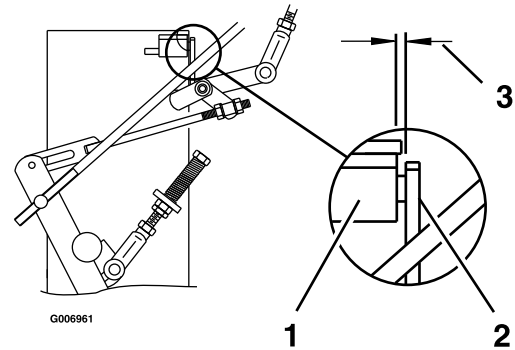

Figure 18
2. Move the speed control lever (located on the console) to the full forward position and check the orientation of the tabs on the ends of the speed control crank (see Figure 18). These tabs should be pointing straight down at the 6 o'clock position or slightly forward.
Adjust the threaded yoke at the bottom of the speed control linkage (see Figure 18) until the tabs are positioned correctly.
3. Pull the speed control lever back to neutral. Check that the neutral safety switch actuating tab has depressed the plunger of the switch so that there is about 5/16 inch (7.9 mm) between the tab and the switch (see Figure 18). If necessary, move the switch fore and aft.